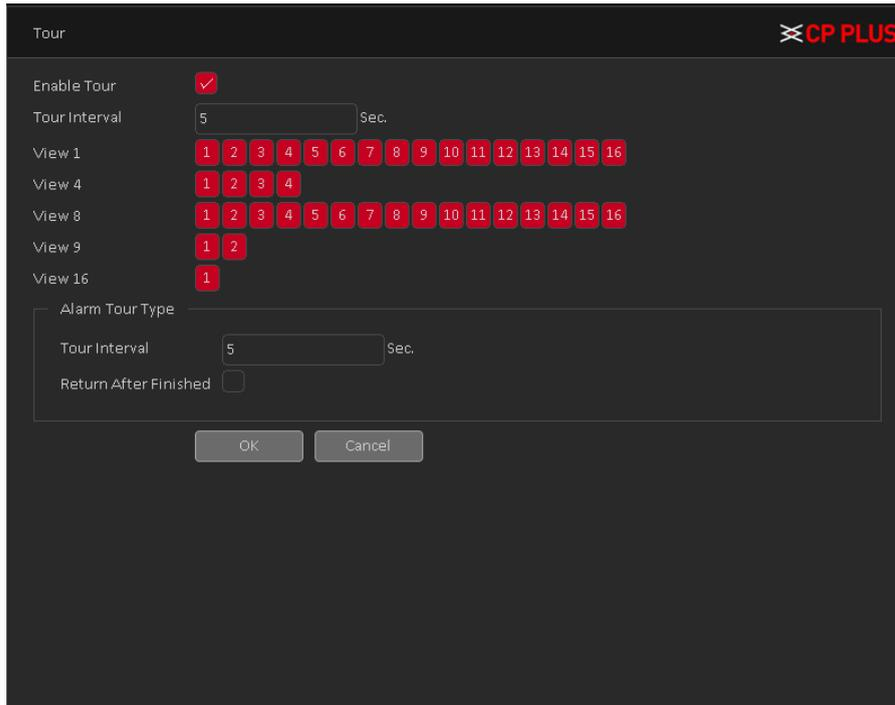

Figure 4.66
- Mean that the tour mode is enabled. User can choose the single-view, four-view, eight-view of single mode tour or hybrid mode tour. Tour interface is shown as in Figure 4.66.